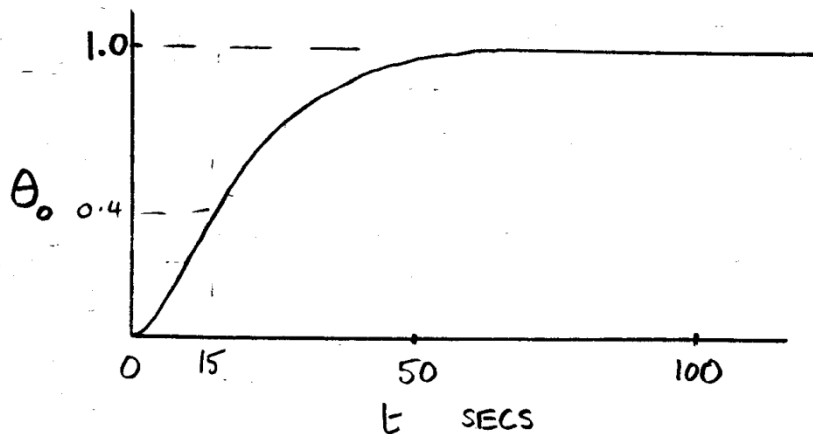

Fig. 3 Response of a system to a unit step change.
8. Assuming that the response, shown in Figure 3, is the response of a critically damped second order system to a unit step input, determine the transfer function of the system. Using this transfer function check the response function at one or two points and hence state whether or not you consider that the response may be adequately represented by the transfer function.